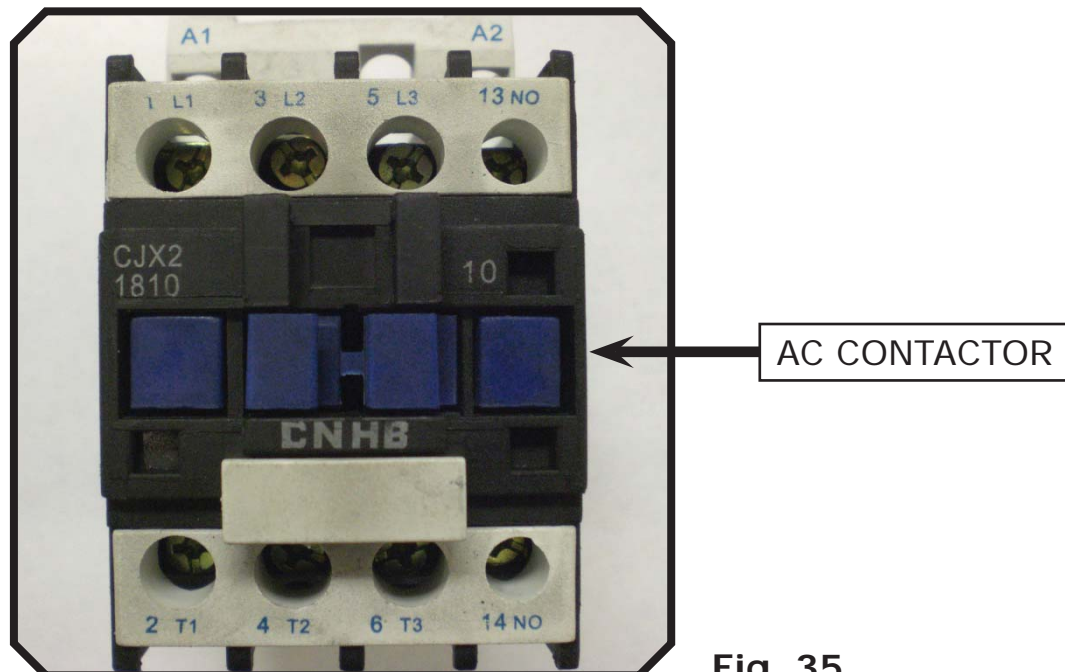

Fig. 35
1. Connect the two power supply (**incoming**) wires (**black & white**) to terminals on the AC contactor marked **L2 & L3** (See Figure 35).